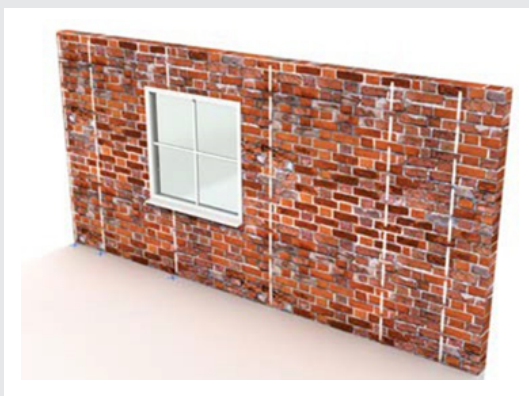

Figure 5
- Set out vertical lines at 1200 mm centres onto the wall (Figure 5) to indicate board positioning, marking out any doorway or window openings;